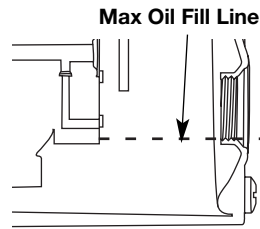
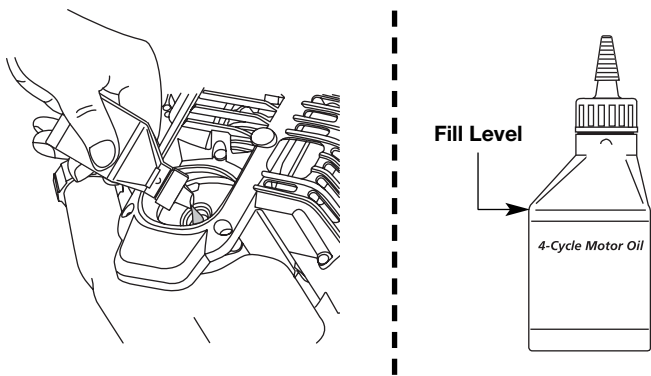

Fig. 23
Fig. 26
6. Look into the oil fill hole (use a flashlight if needed). The oil should be just touching the innermost thread (Fig. 23).
7. If the oil level is not touching the innermost thread on the oil fill hole, add a small amount of oil to the oil fill hole and recheck (Fig. 23). Repeat this procedure until the oil level reaches the innermost thread on the oil fill hole.
measure the correct amount of oil. The top of the label on the bottle measures approximately 3.04 ounces (90 ml) (Fig. 26). Check the level, See Checking the Oil Level. If the level is low, add a small amount of oil and recheck. Do not overfill (Fig. 23).